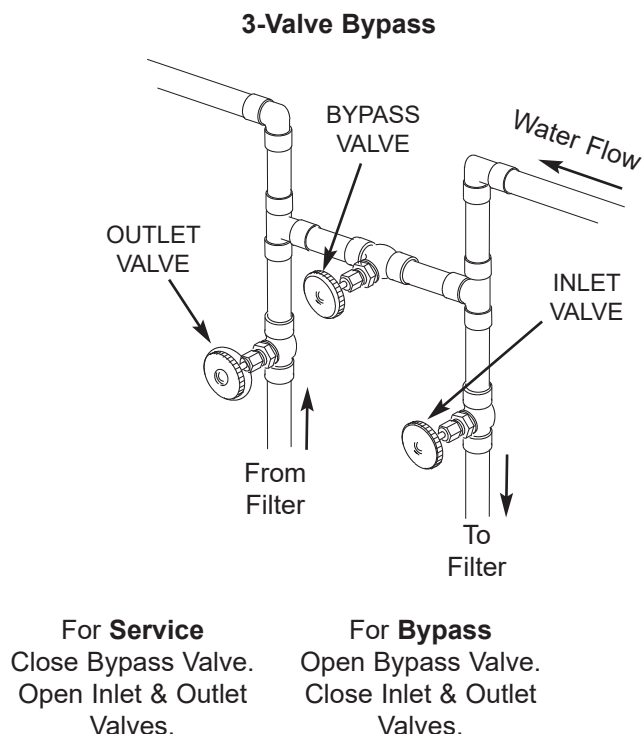

FIG. 82
### 3-VALVE BYPASS (See Figure 82)
4. Are plumbing bypass valve(s) in service position (See Figures 82 & 83 on Page 24)?